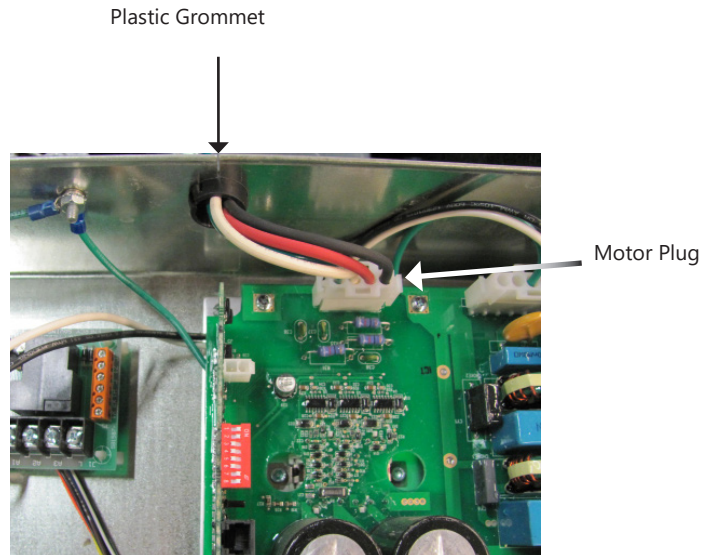

Fig. 2 - LV-1750 Circuit Box
2. Unplug motor plug from control board and remove plastic grommet by squeezing the sides with needle nose pliers. (Fig. 2)